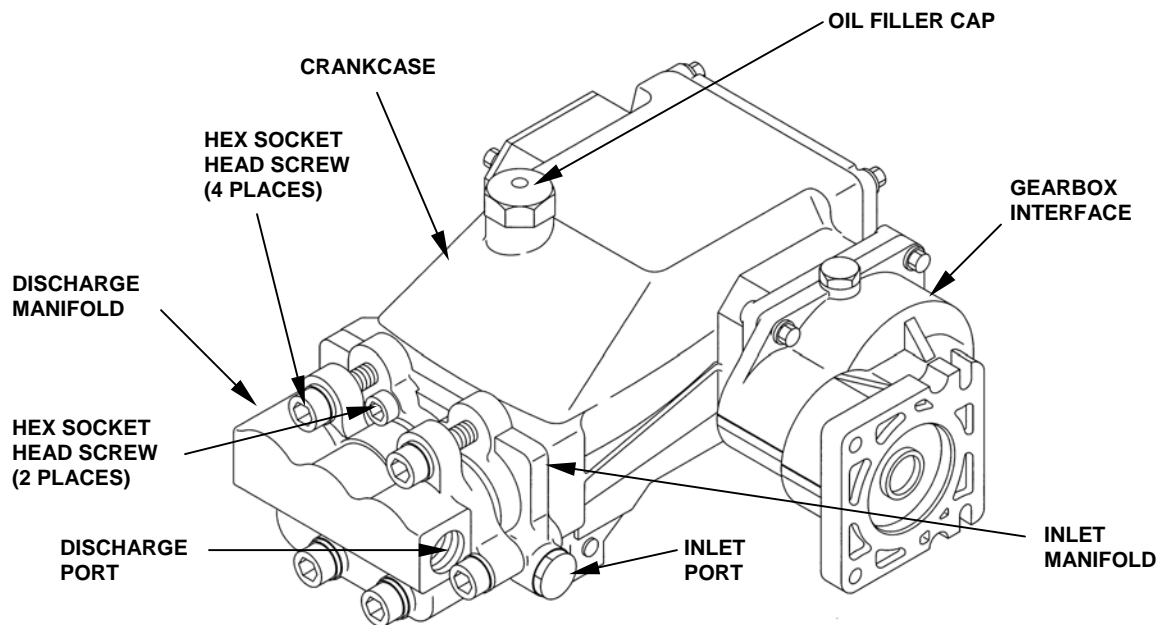

Figure 1. High-Pressure Pump.
1. Remove two Hex Socket Head screws, four screws, and six lock washers from the discharge manifold. Refer to Figure 1.